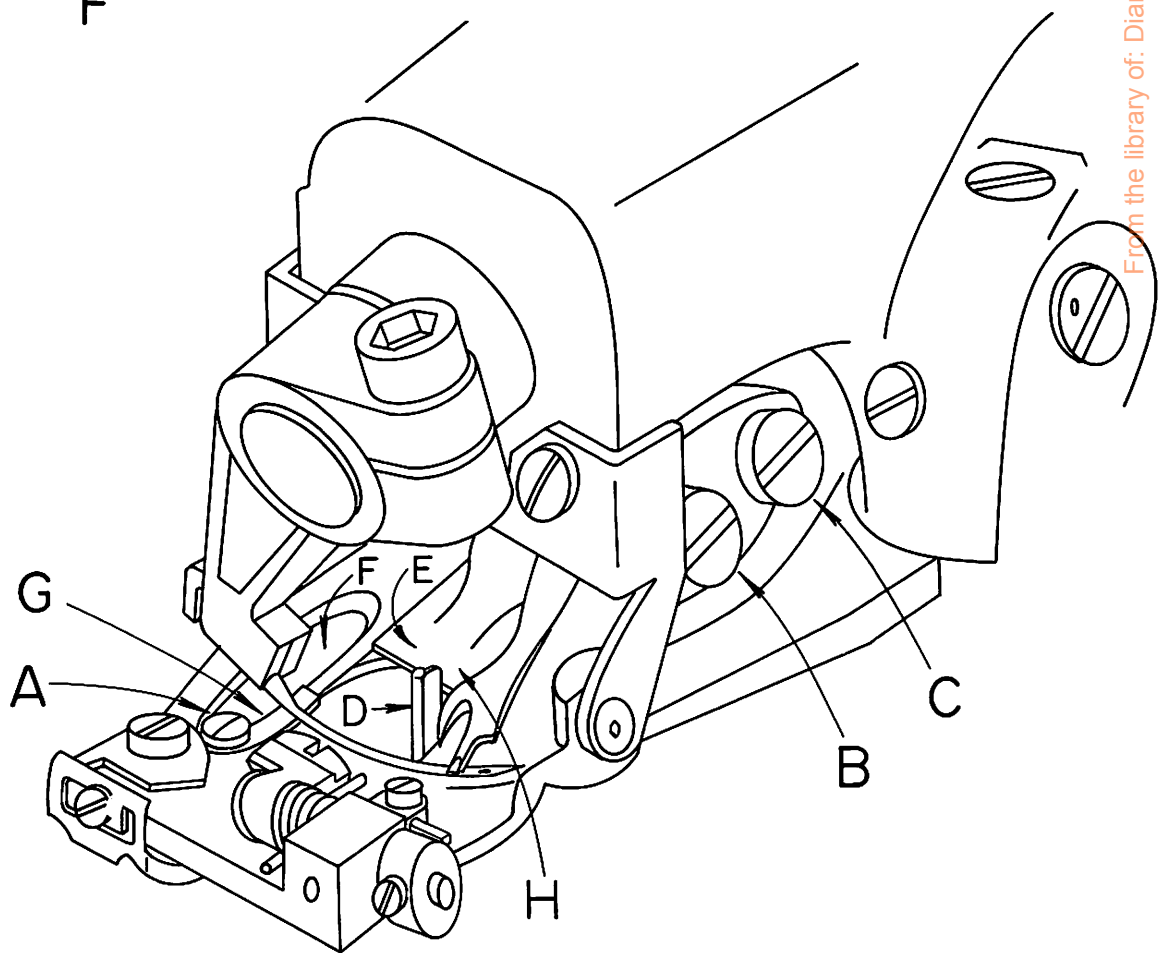
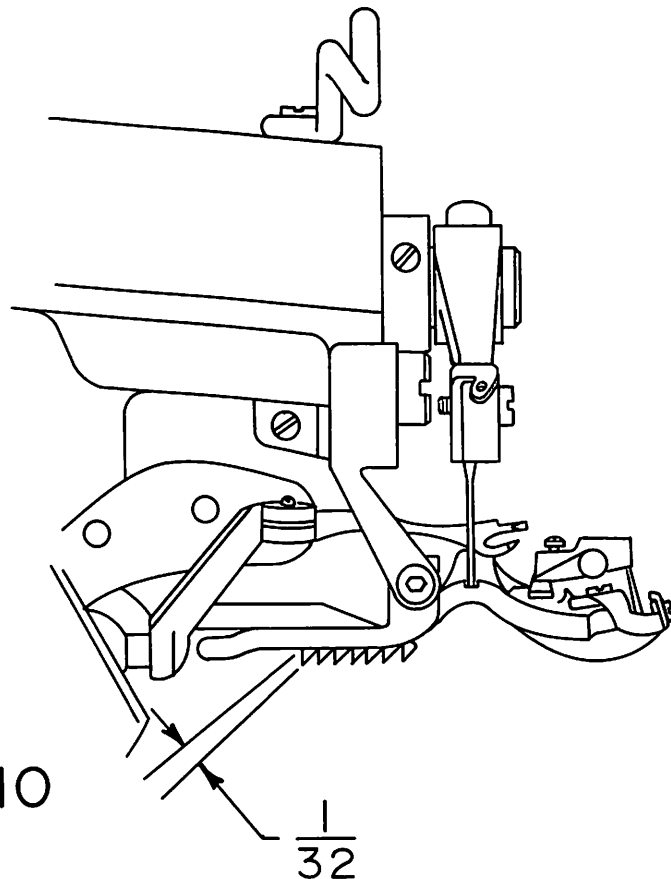

FIGURE 9
FIGURE 10
9. After all the necessary adjustments have been made, tighten all set screws and the lock nut and recheck all the adjustment points. Referring to Figure 9, the looper should now clear the chain-off pin (“D”), feeder (“E”), looper slot (“F”), needle, and pass over the needle in the correct position to pick up the loop.
1. After considerable service, it may be expected that the wearing action of the needle will cause a sharp edged groove to form on the needle guide (item “G” in Figure 9).
2. Loosen the needle guide attaching screw (item “A” in Figure 9) and remove the worn needle guide. Clear out any lint or dirt that may have accumulated under the old guide and insert the new guide. Insure that the new guide is seated flush with the top and side of the presserfoot and then retighten the attaching screw. Slowly turn the handwheel in the direction away from the operator and check to insure that the new guide fits properly under the needle and that no interference has been introduced between the guide and the looper.
1. In the event that the machine develops difficulty by failing to properly feed the work, a worn feeder is frequently found to be the cause. After considerable service, especially with certain hard fabrics, the feeder teeth have a tendency to become dull, and the feeder should be replaced. In order to remove the old feeder, remove the front feeder attaching screw (item "B" in Figure 9) and loosen the rear feeder attaching screw (item "C" in Figure 9). The old feeder may then be slid out of place. Insert the new feeder under the rear screw and replace the front screw.
2. Before tightening the attaching screws check to see that the feeder is set to the proper depth. Referring to Figure 10 this should be approximately  $\frac{1}{32}$ " (.795mm) below and parallel to the bottom of the presserfoot for all light and medium weight fabrics. For heavy fabrics, the setting should be approximately  $\frac{1}{16}$ " (1.59mm) below and parallel to the bottom of the presserfoot. These dimensions are intended as guides and may be modified as required by the specific fabrics. Once the proper depth is established, rotate the handwheel slowly in a direction away from the operator and check to insure that the feeder clears the looper (see Figure 9, Point "H") and also clears both sides of the feeder slot in the presserfoot. Firmly tighten feeder attaching screws (Figure 9, Items "B" & "C") before resuming sewing.